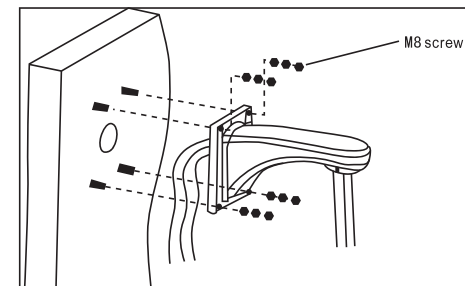

Fig 3
b. As shown in fig 3, attach the wall hanging bracket to the wall with wire and cable passed through it.